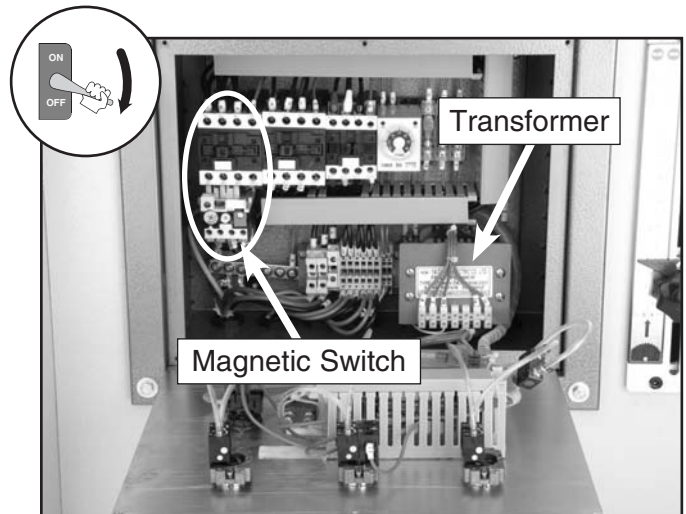

Figure 53. Magnetic switch inside the switch box.
3. Remove the 220V magnetic switch and from inside the switch box (**Figure 53**) and replace it with the 440V conversion switch.